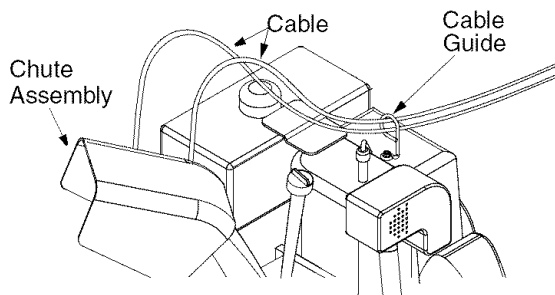

Figure 7
- If not already attached, slip the cables that run from handle panel to discharge chute into the cable guide located on top of the engine. See Figure 7.